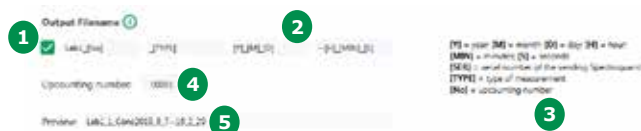

Figure 59 - Section "Output Filename" in Prove Connect's configuration tab
If you want to define your own pattern for the name of the CSV or XML output files, please activate the check box in the Output Filename section of the Configuration Tab ① (Figure 59).
If you want to define your own pattern for the name of the CSV or XML output files, please activate the check box in the Output Filename section of the Configuration Tab **1** (Figure 59).